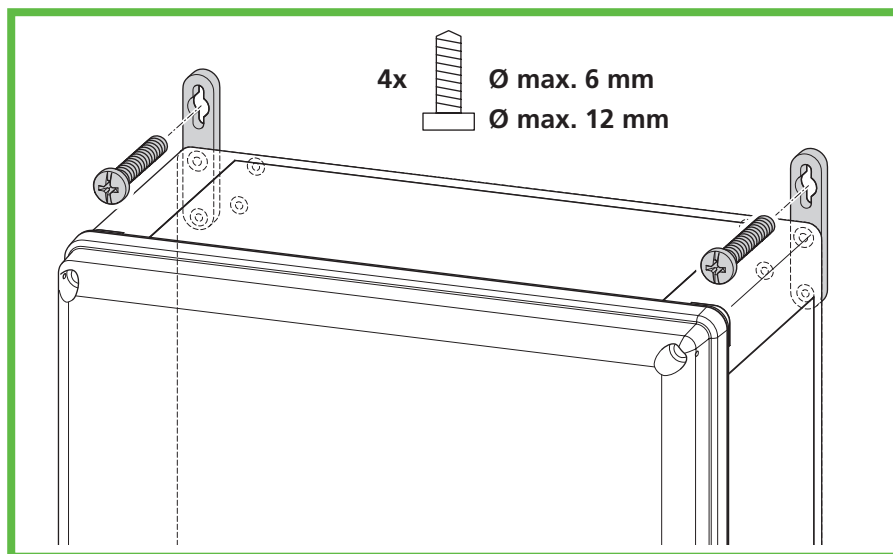

Figure 12: Wall assembly
- ▶ Screw the charging station tight by screwing one screw each through the boreholes in the external fixing brackets (Figure 12).